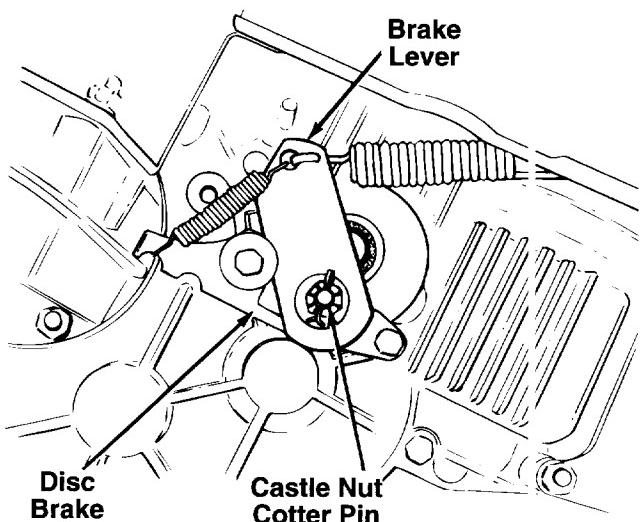

FIGURE 22.
## BRAKE ADJUSTMENT (See figure 22)
**NOTE:** Figure 22 is shown with the unit tipped up on rear wheels for clarity only.